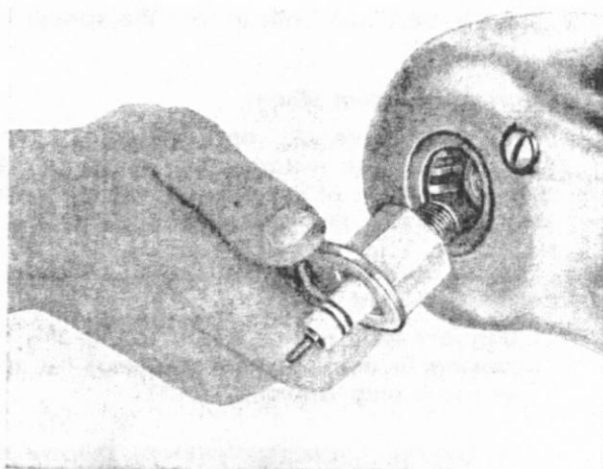

Fig. 19: Unscrewing the spark plug
2. Unscrew spark plug by means of spark plug spanner (Fig. 19).